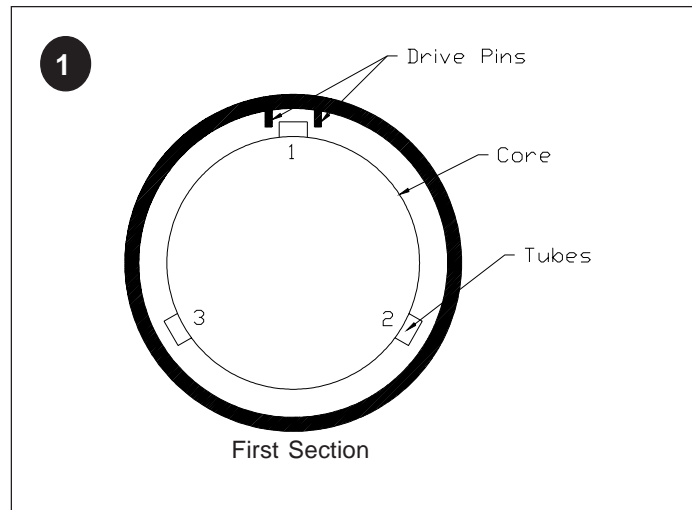

figure 23
- a. Number the tubes on the core as 1, 2 and 3 (figure 23).
- b. Slide the first section onto the core with the drive pins on either side of tube 1. Make sure that the drive pins angle up (figure 23).